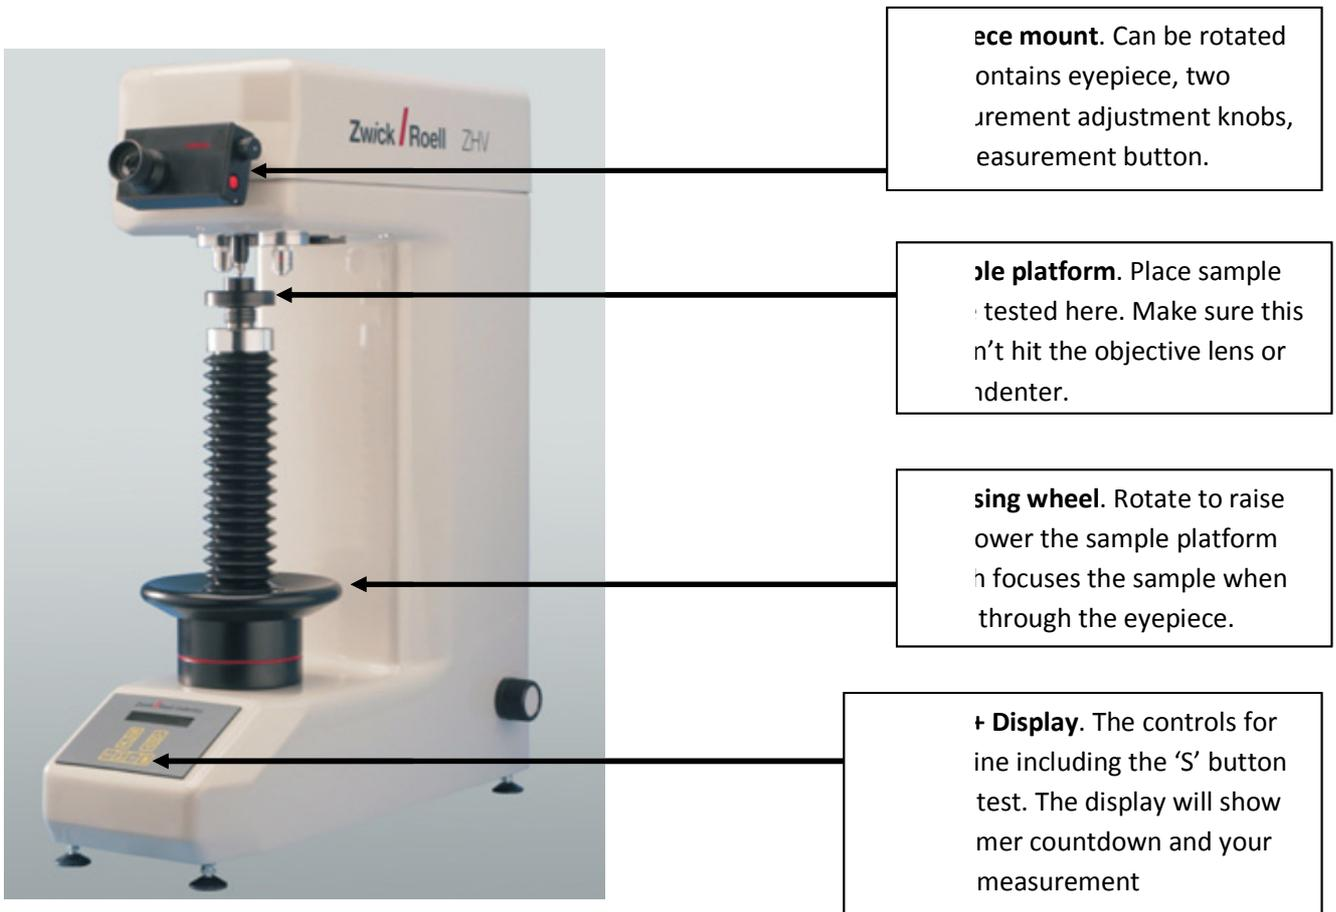

Figure 2. Zwick-Roell Hardness Tester.
- Check the level of the sample platform. You do not want the platform or sample hitting the indenter or any of the lenses. Focusing is done via the large wheel at the bottom of the column. See Figure 2.